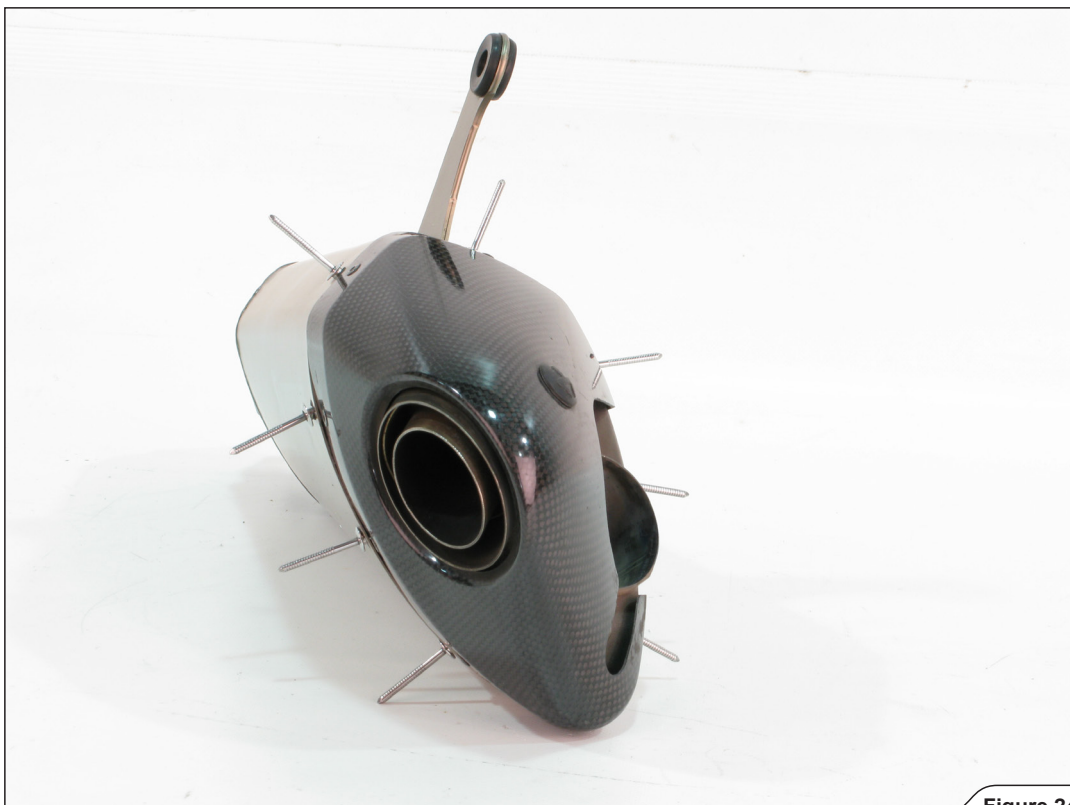

Figure 24
6. Insert the rivets supplied in the Akrapovič reparation kit into the mufflers, as shown (**Figure 24**).